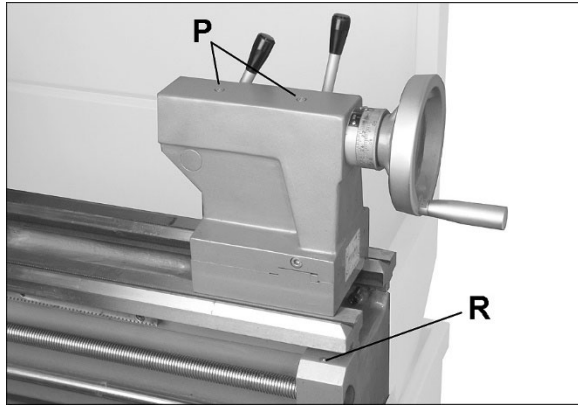

Figure 7-6
10. **Tailstock** – Daily lubricate two ball oilers (P, Figure 7-6) on top of tailstock.
11. **Leadscrew** – Lubricate ball oiler (R, Figure 7-6) once daily.